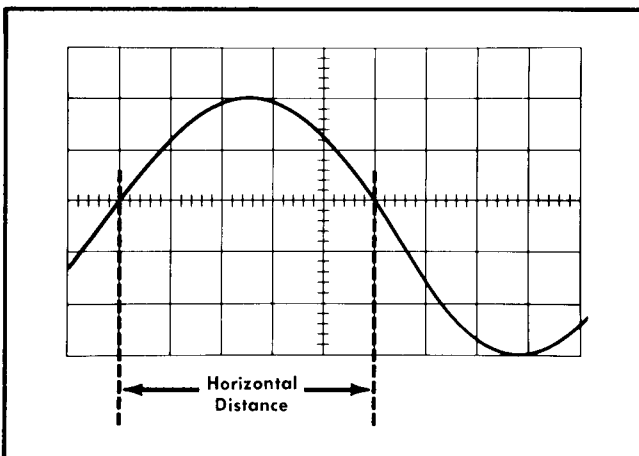

Fig. 2-11. Measuring the time duration between points on a waveform.
4. Set the TIME/CM switch to the fastest sweep rate that displays less than eight centimeters between the time measurement points (see Fig. 2-11). See the topic entitled Selecting Sweep Rate in this section concerning nonlinearity of first and last centimeters of display.
Example. Assume that the distance between the time measurement points is five centimeters (see Fig. 2-11) and the TIME/CM switch is set to .1 mSEC with the magnifier off. Using the formula:
Example. The frequency of the signal shown in Fig. 2-11 which has a time duration of 0.5 milliseconds is: